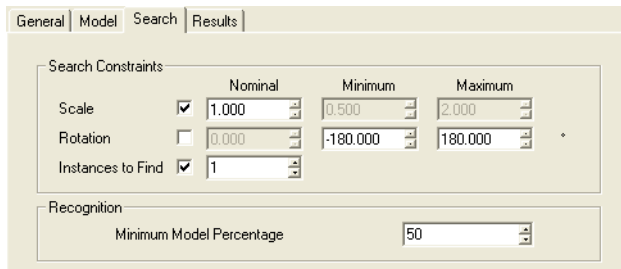

Figure 26 Search Panel of the Locator Tool
4. Leave all the other parameters to their default setting also, as shown in Figure 26.